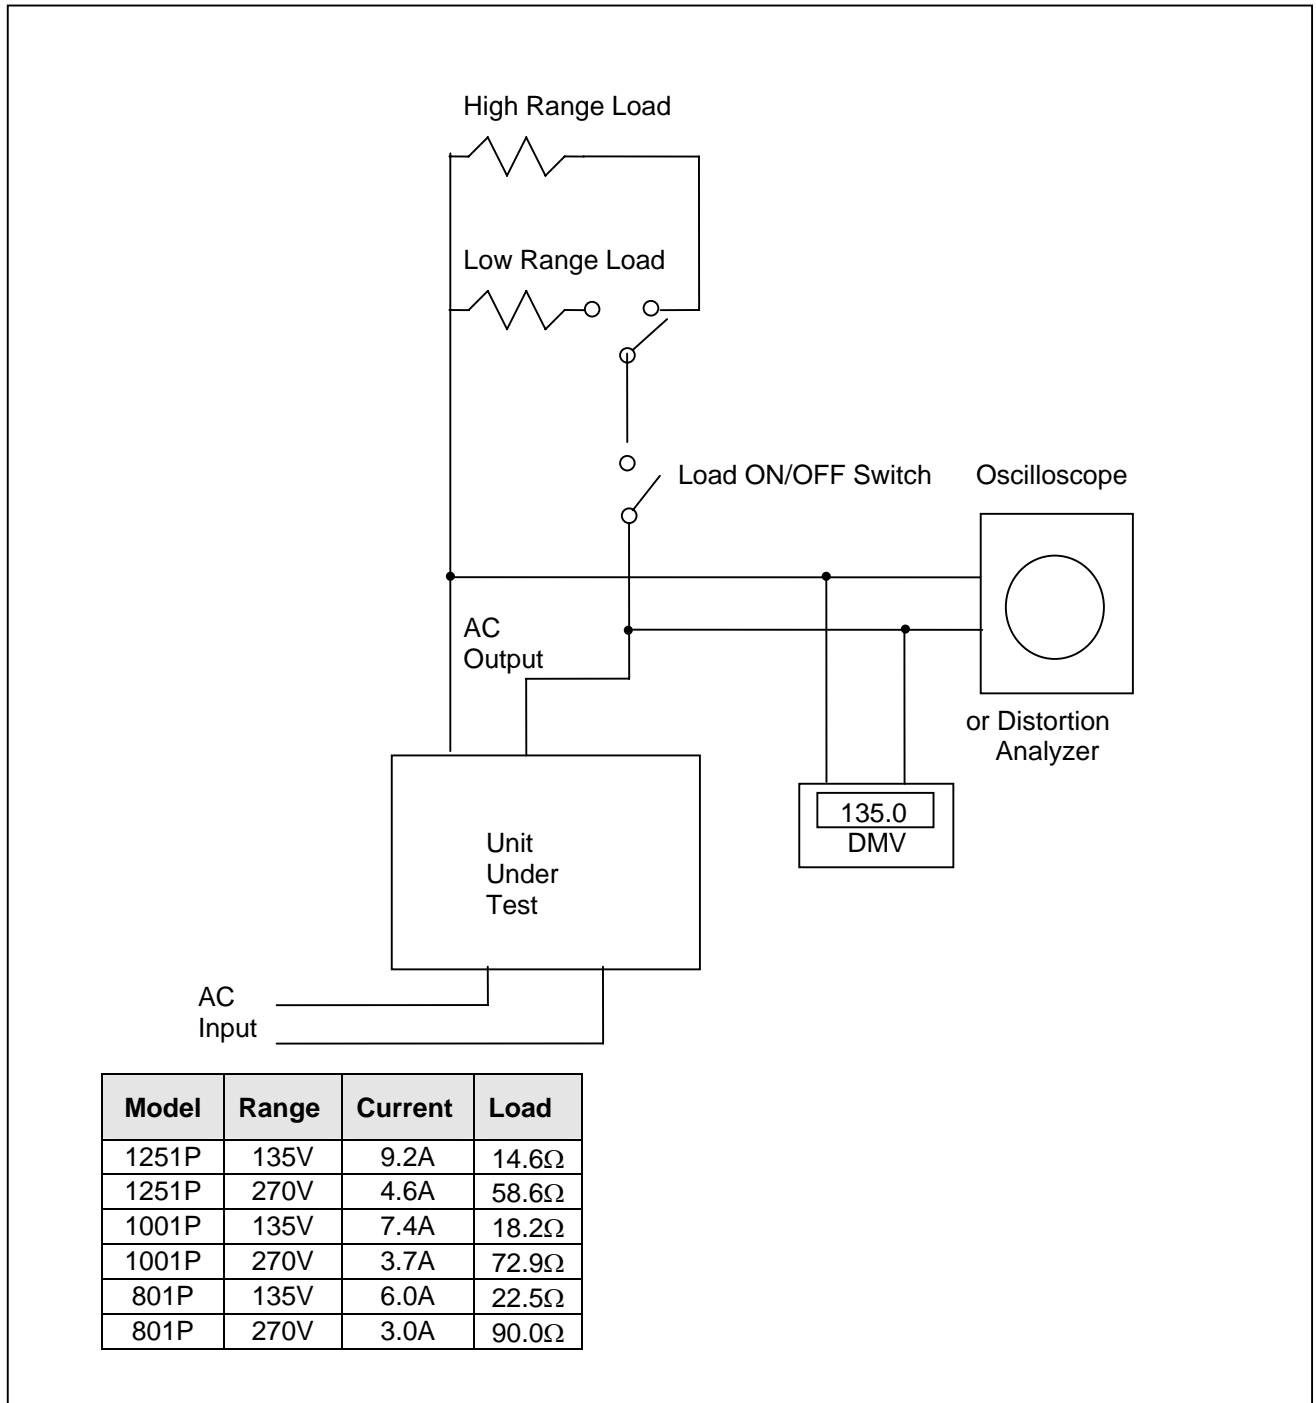

Figure 3-3: Functional Test Setup
Refer to Figure 3-3 for the test set up.
6. Apply full load (refer to table on Figure 3-3) to the output of the source and verify the output remains within 2% of the initial 135 volt value. The output should still be clean and the distortion should still be less than 1% at 60 Hz.
8. Repeat steps 4 through 7 but set the output for the following: Hi voltage range and the current limit to maximum value. The output load should be connected to the Hi range output connector. The load value is shown in Figure 3-3, for the 270 volt output.